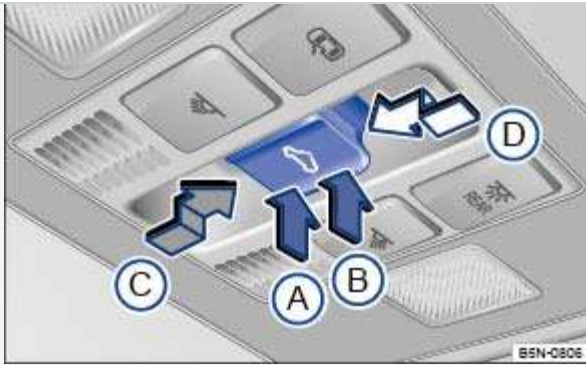

Fig. 38 In the headliner: Power sunroof switch.
The switch ⇒ Fig. 38 has 2 detents for each switch position (A, B, C, and D), which are described in the following table.
Function	Action ⇒ Fig. 38
- Press the  button ⇒ Fig. 38 within about 5 seconds after the sunroof has stopped and hold it in the direction of the arrow  at the second detent until the power sunroof closes completely.